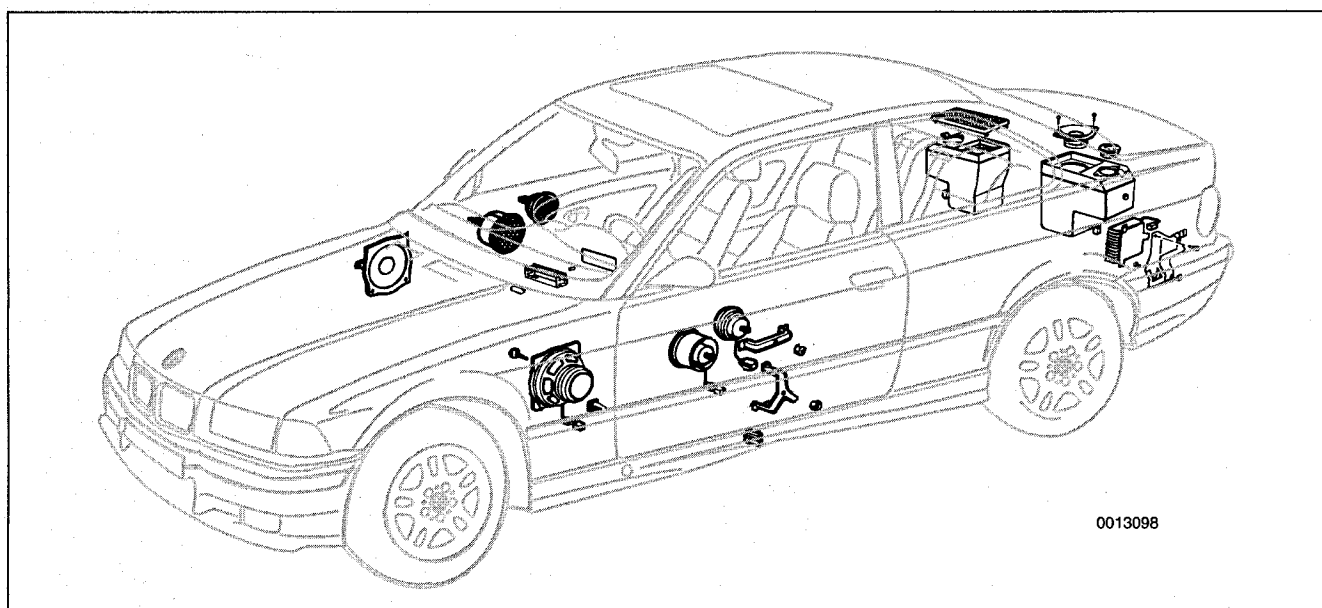

Fig. 3. Ten speaker sound system.
- A 320-watt Harmon-Kardon ten speaker system, including a separate high power multi-channel audio amplifier and two sub-woofers. In this system, the bass and volume outputs from the selected audio source automatically compensate for vehicle speed, making constant volume adjustments unnecessary. An additional feature of this sound system is the ability to switch from normal left-right stereo into Spatial Enhancement Mode, which produces a fuller, rounder sound. See Fig. 3.